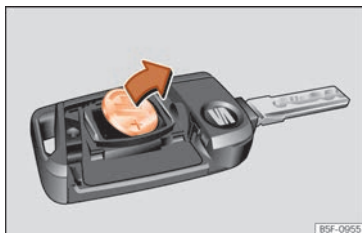

Fig. 123 Vehicle key: removing the battery.
- Extract the battery from the compartment using a suitable thin object **»»** **Fig. 123**.
- Place the new battery in the compartment as shown **»»** **Fig. 123**, pressing in the opposite direction to that shown by the arrow **»»** **⚠**.